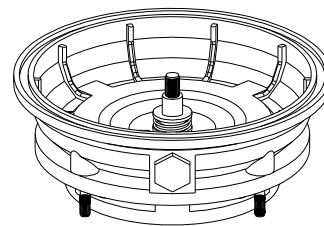

Figure 11
- Unscrew four nuts holding pump back half to motor. Remove rotating half of seal by placing two screwdrivers under back half of pump body and carefully prying up (See Figure 11). Back half of pump body will slide off shaft, bringing seal with it.